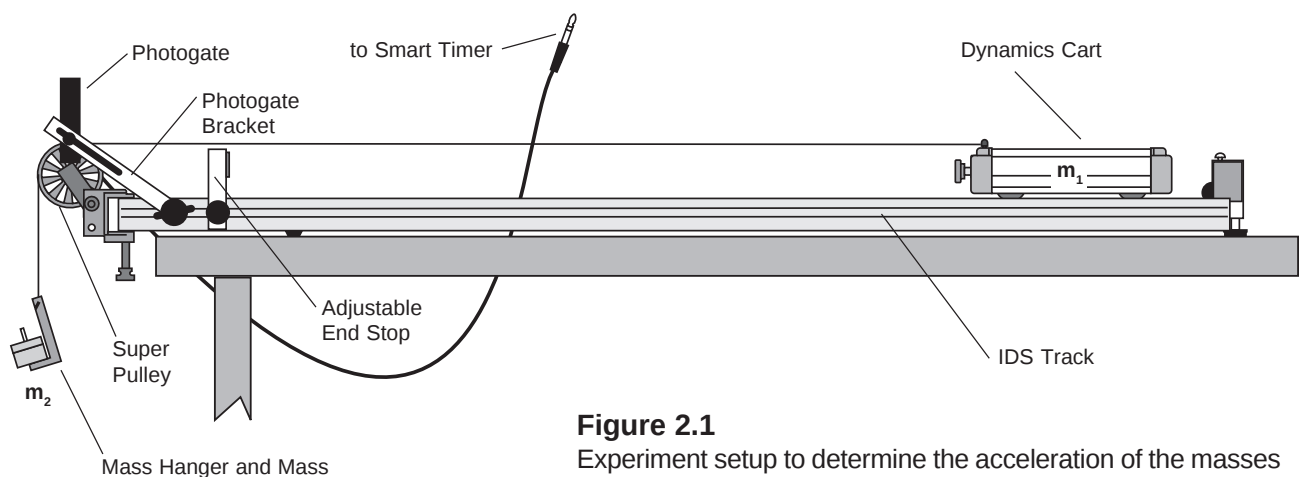

Figure 2.1
Newton's Second Law, $\mathbf{F} = \mathbf{ma}$, is a description of the relationship between $\mathbf{F}$, the net force acting on the object of mass $\mathbf{m}$, and $\mathbf{a}$, the resulting acceleration of the object. For a cart of mass $\mathbf{m}_1$ on a horizontal track with a string attached over a pulley to a mass $\mathbf{m}_2$ (see Figure 2.1), the net force $\mathbf{F}$ on the entire system (cart and hanging mass) is the weight of hanging mass, $\mathbf{F} = \mathbf{m}_2\mathbf{g}$, assuming that friction is negligible.
3. Attach the Super Pulley to the end of the track as shown in Figure 2.1.